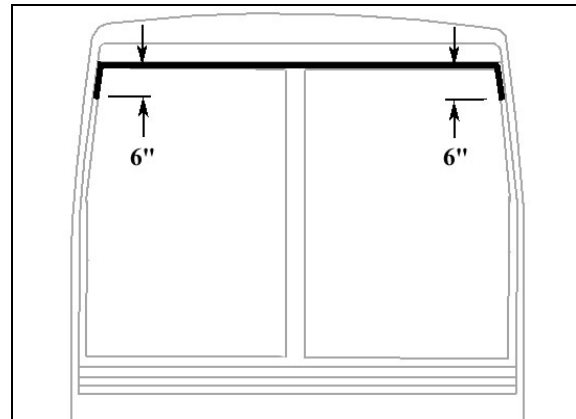

FIGURE 16: APPLICATION OF SIKA 221 BLACK
- At the top of windshield, clean surface between fiberglass and rubber extrusion using Sika 205 (Fig. 16).